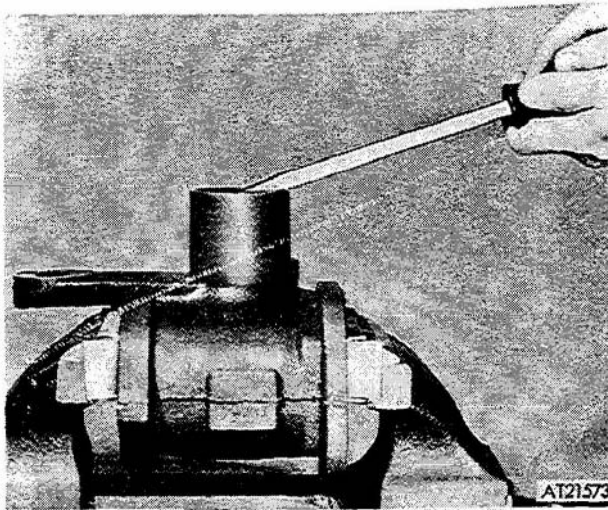

Figure 3-200. Removing seal from worm gear housing.
(9) Remove plug (8, fig 3-195), ball cups (9 and 13), ball bearings (10 and 12) and worm gear (11) from housing (18). Remove seal (20) from housing (fig 3-200).